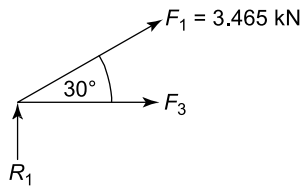

Figure 6.32
**Consider next joint (2),** as this joint now has two or less unknown forces; see Figure 6.32.